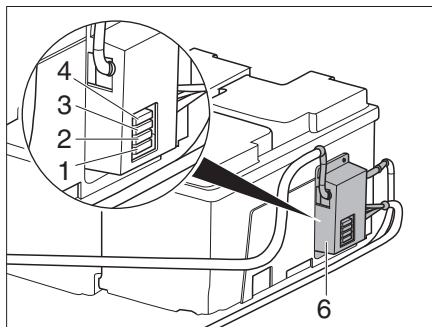
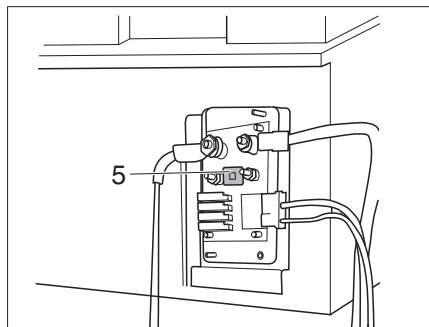

Fig. 314 Fuses for living area battery (optional)
Fig. 315 Fuse charging booster (cover removed)
► To access the fuse F5 (Fig. 315,5) for the EBL supply line, the cover (Fig. 314,6) must be removed.